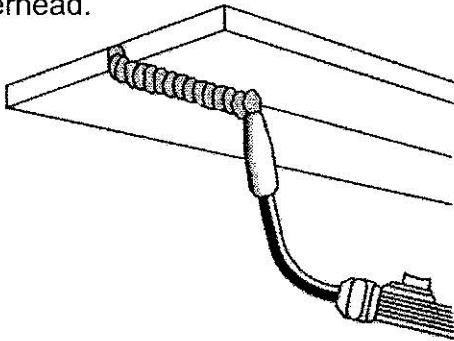

Figure 17. Overhead Position
4. The OVERHEAD POSITION (Figure 17) is the most difficult welding position because gravity is pulling at the weld puddle trying to make it drip off the work piece. Angle A (see HOLDING THE GUN - p.19) should be maintained at 60 degrees, the same as in the flat position. Maintaining this angle will reduce the chances of molten metal falling into the nozzle should it drip from the weld puddle. Angle B should be held at zero degrees so that the wire is aiming directly into the weld joint. If you experience excessive dripping of the weld puddle, select a lower heat setting. Also, the weave bead tends to work better than the stringer bead when welding overhead.